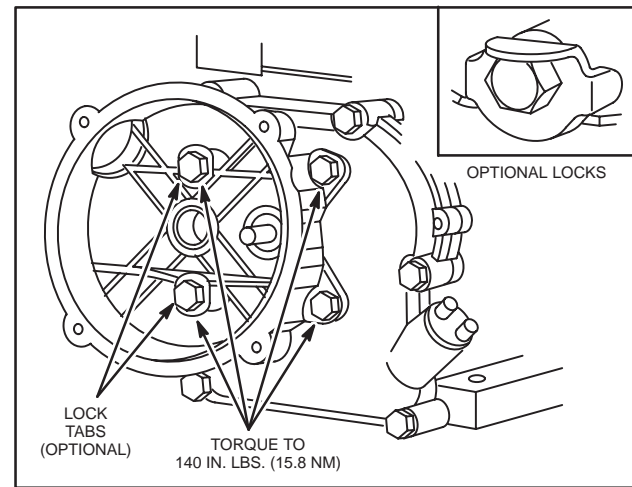

Fig. 134 – INSTALLING GEAR CASE
6. Bend locks up against flats on head of cap screws, Fig. 134, when used.